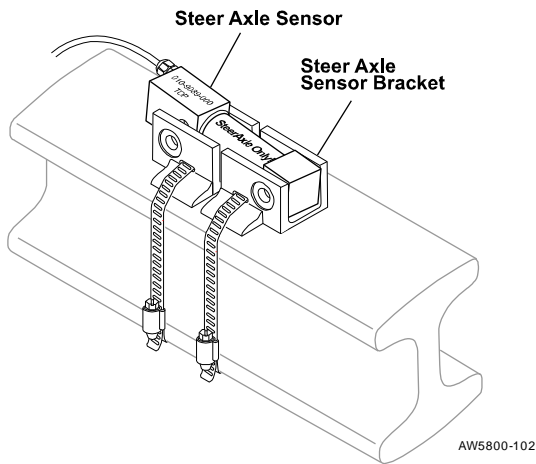

Figure 9. Inserting the Sensor into the Bracket
2. Insert the steer axle sensor with its cable extending towards the side of the vehicle where the sensor extension cable has been routed to the firewall. The "TOP" lettering on the sensor should face UP. See Figure 9.